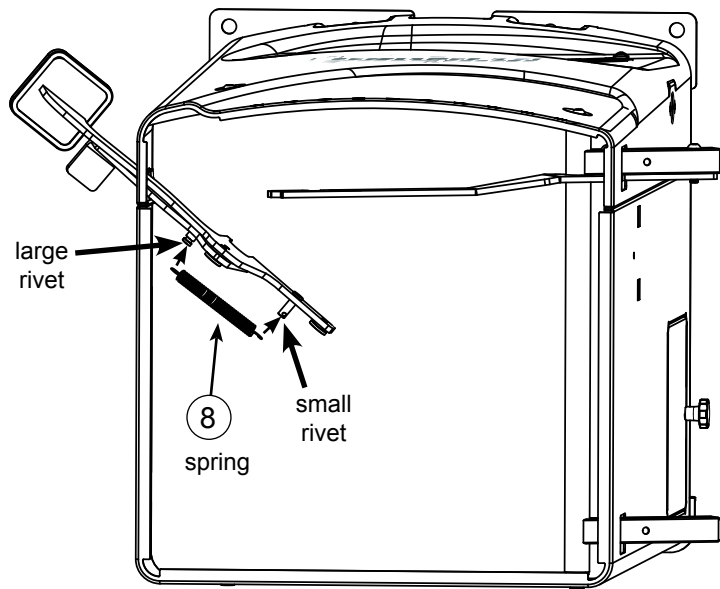

Fig. 10
10. Remove the extension spring from the hardware pack and attach one end of the spring to the small rivet in the pedal assembly by sliding one end of the spring through the hole in the small rivet. Stretch the other end of the spring over the large rivet in the pedal assembly (see Fig. 10). There is a circular groove on the large rivet to hold the spring in place.